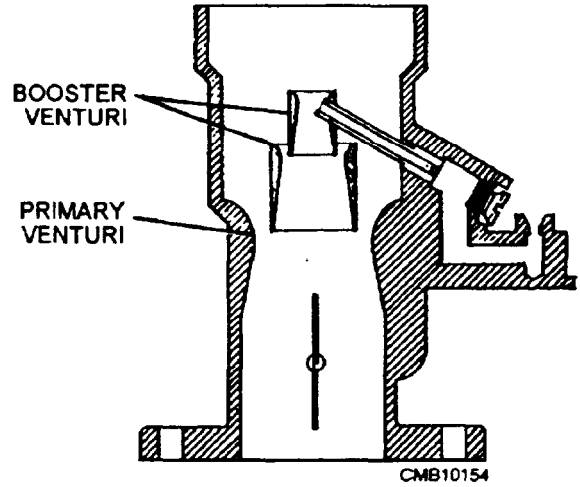

Figure 4-25.—Booster venturi
- The VENTURI is the hourglass shape, formed in the side of the carburetor air horn. One or two booster venturis (fig. 4-25) can be added inside the primary venturi to increase vacuum at lower engine speeds.